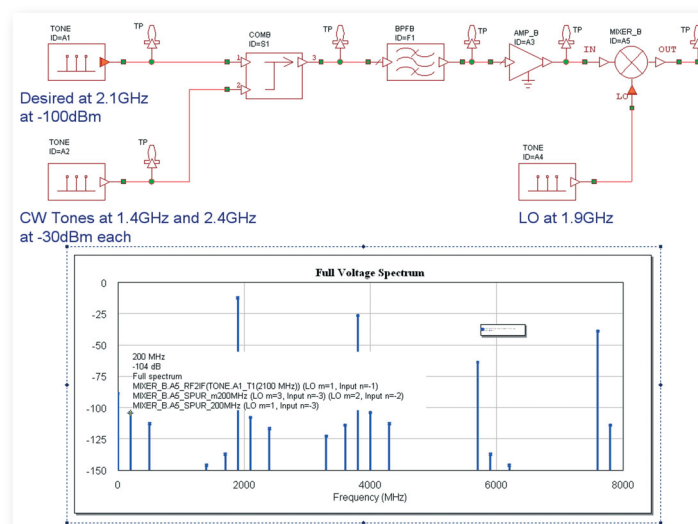

Figure 7. RF Inspector applied to a converter circuit that has test points (TP), combiners (COMB) and Butterworth bandpass filters (BPFB).
Figure 7 shows RF Inspector applied to a converter circuit that has test points (TP), combiners (COMB), and Butterworth bandpass filters (BPFB). In this circuit, the signal is downconverted at 2.14 GHz and has undesired signals at 1.4 and 2.4 GHz. RF Inspector can identify the components that are producing the largest contributions to these unwanted signals and calculate the outcome when adjustments are made.